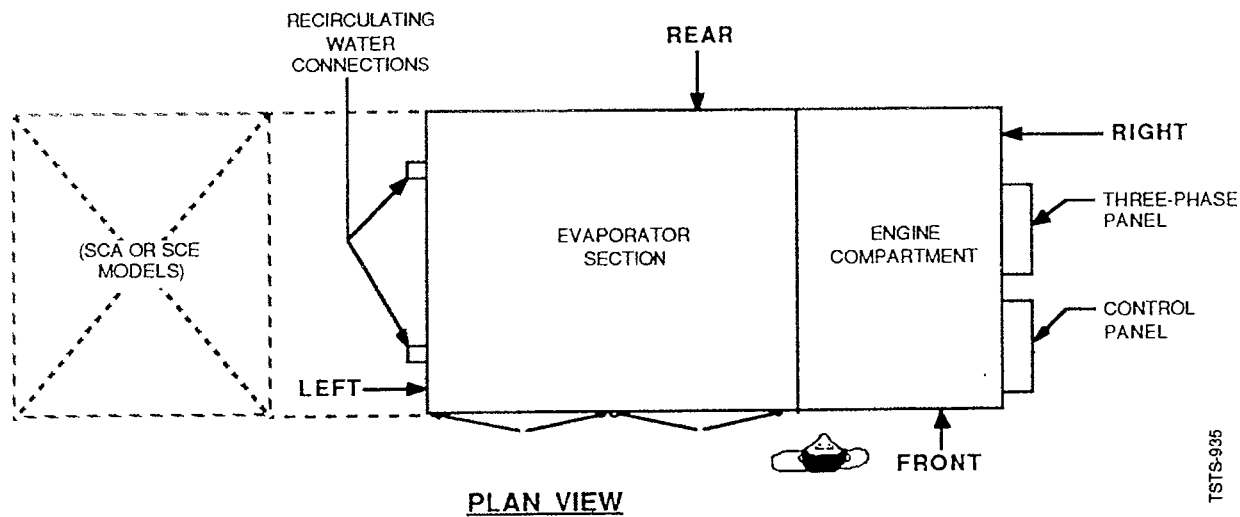

Figure 3-1 Typical Thermal Storage Unit Layout
- Establish front and rear, and left and right of the thermal storage unit by facing the motor/compressor and evaporator sections (see Figure 3-1).